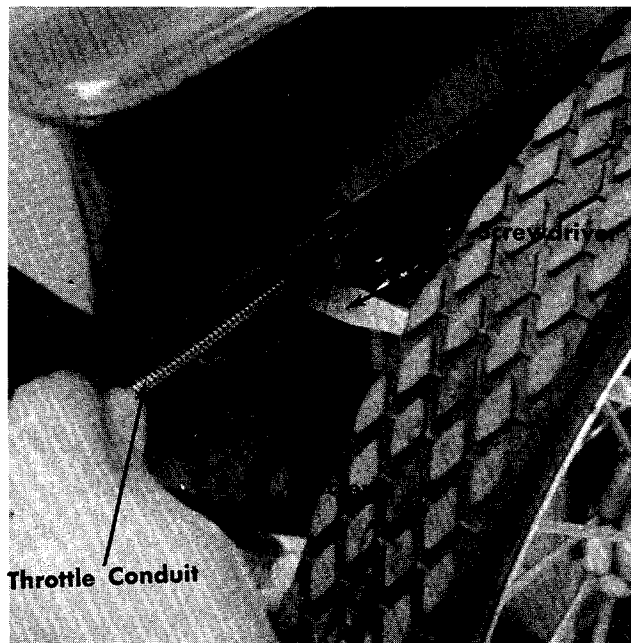

FIGURE 34. THROTTLE ADJUSTMENT
- c. Move lever to which control wire is fastened to engine to full START position. Retighten screw to secure throttle control wire assembly. See figure 34.